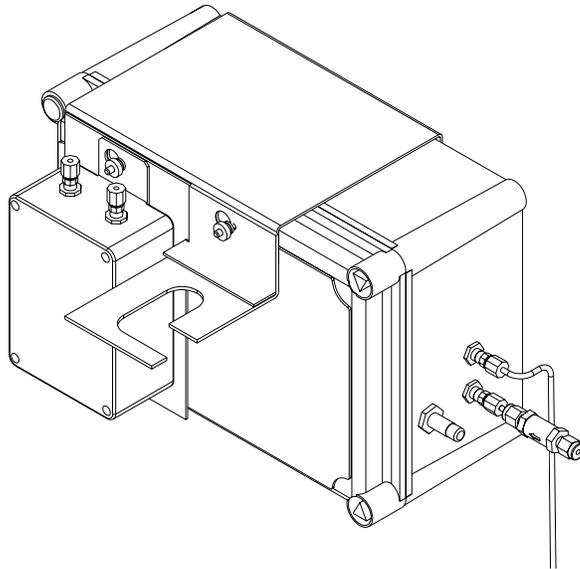

Figure 7
5. Secure the entire assembly by tightening the thumb screws. The entire bracket assembly is now complete and should look like Figure 7.